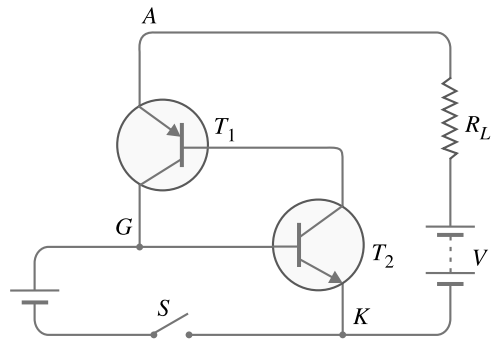

Fig. 18.5
**Working.** The working of SCR can be easily explained from its equivalent circuit. Fig. 18.5 shows the equivalent circuit of SCR with supply voltage  $V$  and load resistance  $R_L$ . Assume the supply voltage  $V$  is less than forward breakover voltage as is usually the case. With gate open (*i.e.* switch  $S$  open), there is no base current in transistor  $T_2$ . Therefore, no current flows in the collector of  $T_2$  and hence that of  $T_1$ . Under such conditions, the SCR is open. However, if switch  $S$  is closed, a small gate current will flow through the base of  $T_2$  which means its collector current will increase. The collector current of  $T_2$  is the base current of  $T_1$ . Therefore, collector current of  $T_1$  increases. But collector current of  $T_1$  is the base current